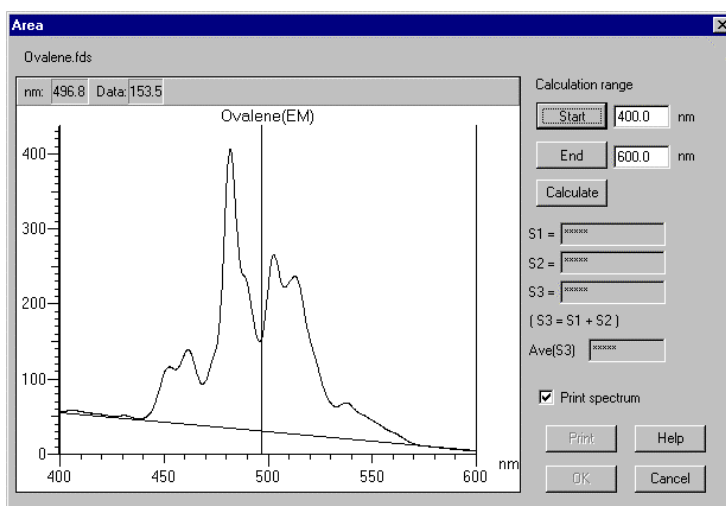

Fig. 6-22
Select the Integration (I) command from the Data (D) menu or click the  (area calculation) button on the Processing toolbar. The window as in Fig. 6-22 will appear.